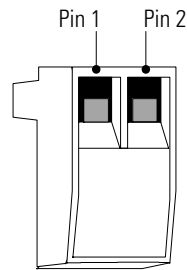

Figure 13. REPO Connector
3. Connect isolated, normally-open, dry contacts (rated to handle 60 Vdc maximum, 30 Vac RMS maximum, and 20 mA maximum) across the REPO device to Pin 1 and Pin 2 (see Figure 13). Use stranded, non-shielded wiring, size 18–22 AWG (0.75 mm²–0 mm²).